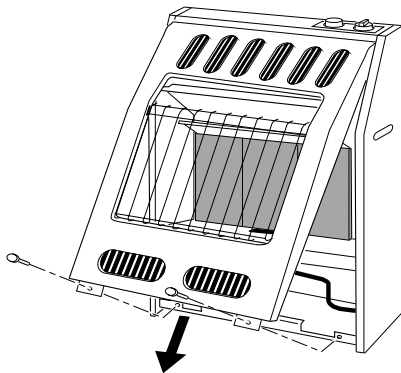

Figure 7 - Removing Front Panel of Heater (Model FBS-3B Shown)
3. Pull bottom of front panel forward, then down (see Figure 7).